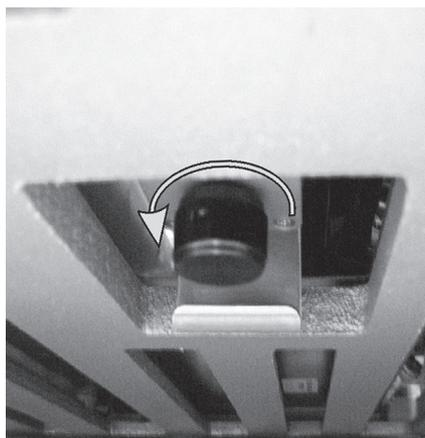

Figure 132: Manual release knob
7. Turn the knob in the direction shown in Figure 132. As you do the Covertiles will move over the slides and the whole assembly and tray move up.
4. Locate the manual release knob (see Figure 132) beneath the slide staining assembly.
5. Turn the knob in the direction shown in Figure 132. As you do the Covertiles should be moved over the slides and the whole assembly and tray will move up.